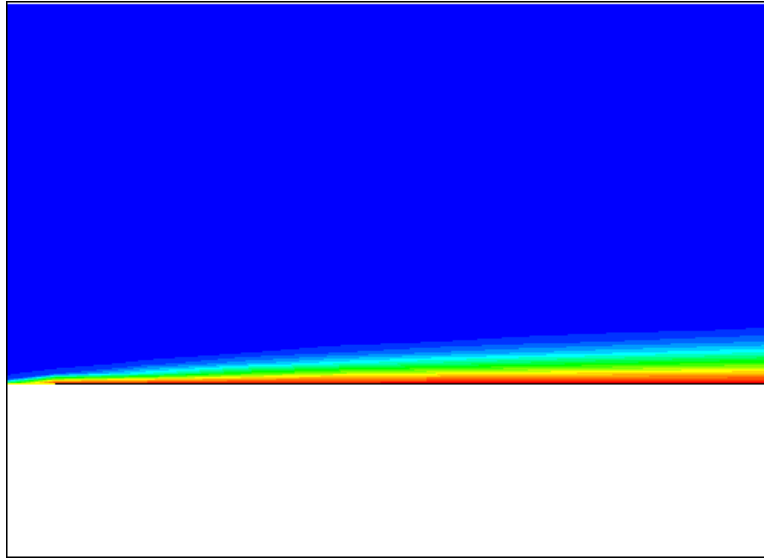

Figure 3.6: Contours of Static Temperature
3. Display the temperature contours (Figure 3.6).
Zoom in to get the complete temperature distribution of temperature along the length of plate (Figure 3.6).